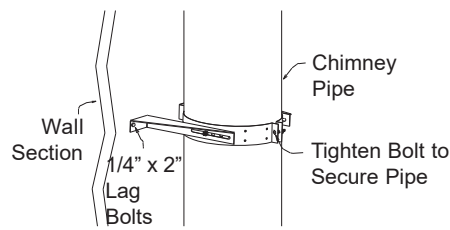

FIGURE 45c
8. Secure brackets to wall using 1/4" x 2" lag bolts (see Figure 45c).
9. Place length of pipe within the assembly and tighten the tabs using the 1/4" x 2" bolt referenced in Step 3 to secure the pipe within the band (see Figure 45c).